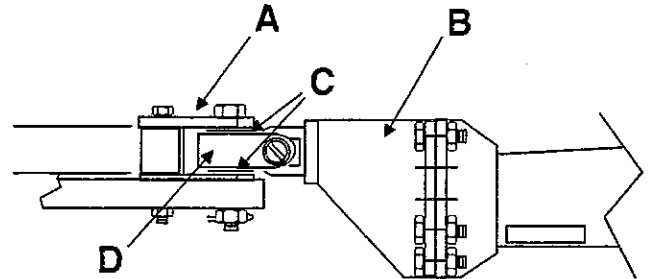

Figure 2.05: Front Hitch Adjustment.
Set the front hitch of harvester (see Figure 2.05) so maximum lift for transport is maintained and still allows lowering into ground as far as necessary. Move the bolt-on hitch (B) to best position, this may require turning (B) over.